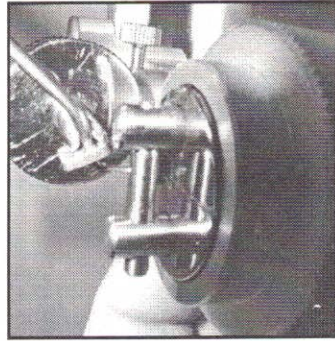

Fig. 6
1. With the tip securely fixed in the Tip Clamp release the blade from the Blade Positioner by turning the Blade Tightening Knob counter-clockwise (fig 6).